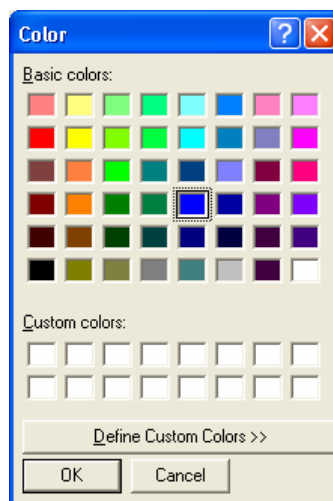

Figure 40 - Standard Colour Dialog
In each case, the standard colour dialog (Figure 40) is used to set the new colour. Forty-eight standard colours are available as well as an almost infinite number of user-defined custom colours.
1. Choose **Setup ➤ Graph Colours ➤ Current Lap** from the main menu. The Standard Colour Dialog (Figure 40) appears.
1. Choose **Setup ➤ Graph Colours ➤ Reference Lap** from the main menu. The Standard Colour Dialog (Figure 40) appears.
1. Choose **Setup ➤ Map Colours ➤ Track** from the main menu. The Standard Colour Dialog (Figure 40) appears.
1. Choose **Setup ➤ Map Colours ➤ Segments** from the main menu. The Standard Colour Dialog (Figure 40) appears.